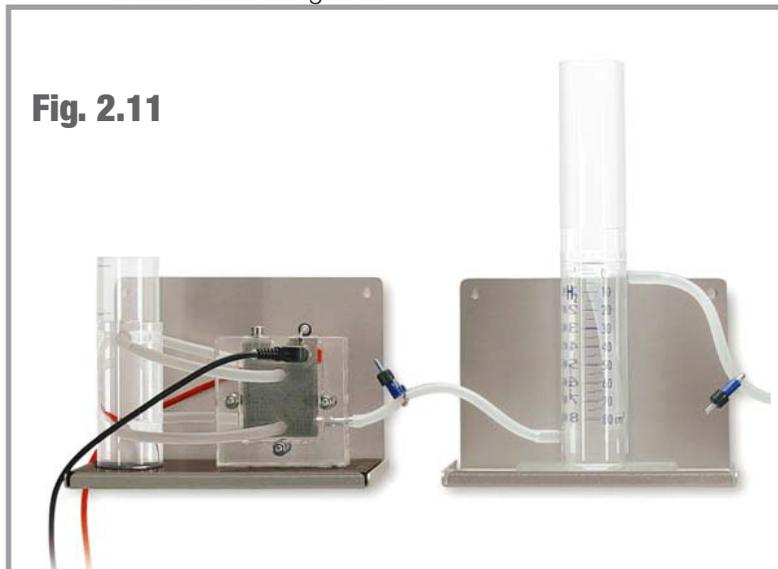

Fig. 2.11
1. Connect the hydrogen outlet of the Electrolyzer to the bottom inlet of the Storage 80 and open the hose clamp (Fig. 2.11).